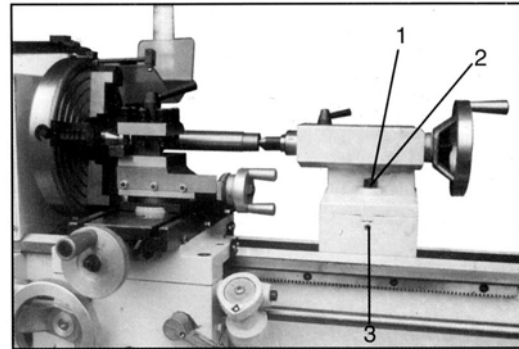

Fig.17
Work to a side angle of 5 can be turned by off-setting the tailstock. The angle depends on the length of the workpiece. (Fig.17)
To off-set the tailstock, loosen locking screw (1, Fig.17). Loosen the front adjusting screw (2) and take up the same amount by tightening the rear adjusting screw (3) until the desired taper has been reached. Tighten the front screw to lock the tailstock in position. The workpiece must be held between two centers and driven by a face plate and driver dog.